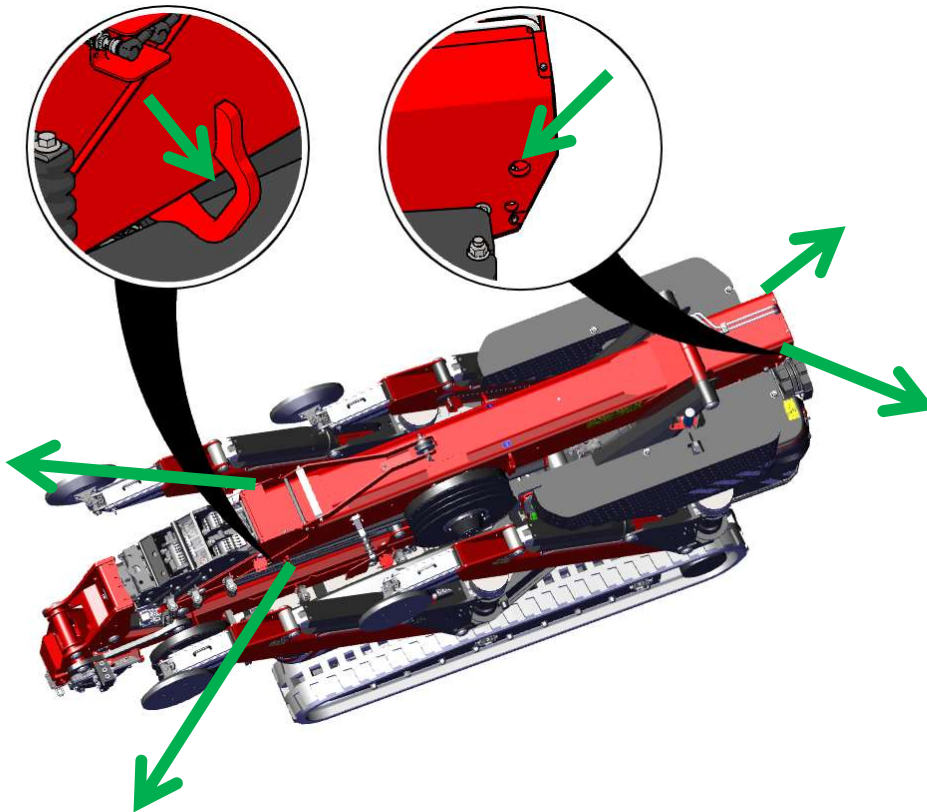

Figure 63: Attaching to the main boom
- Secure the machine by attaching four lashing straps to the slots in the main boom as shown below (see figure 63).